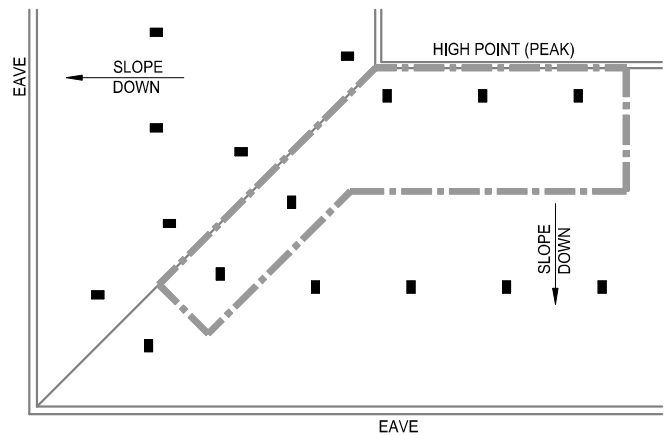

FIGURE 21B: 2 ROW PROTECTION CALCULATION #1
- Calculation #1: Calculate the 3 most hydraulically demanding contiguous DS sprinklers located along the high point (peak) plus the 2 most demanding sprinklers along the hip line. See FIGURE 21B.